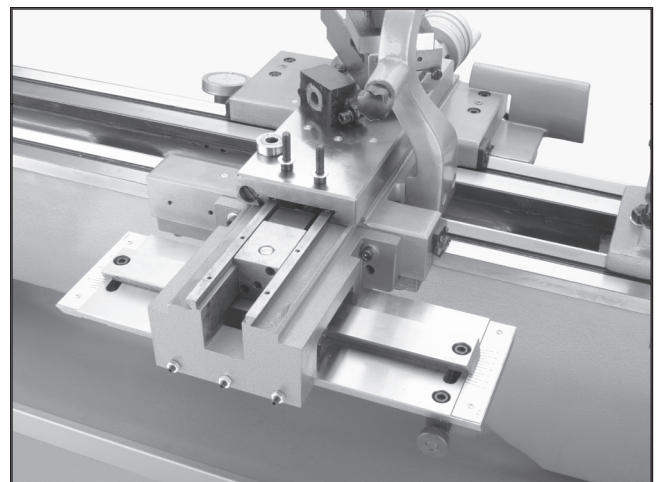

Figure 6. Main Body Assembly.
15. Align the four holes in the main body with the thread holes on the carriage. Use the four M8 - 1.25 x 30 cap screws to loosely fasten the main body to the lathe. A long-handled, ball end hex wrench works best for this step (**Figure 6**).
16. With the main body loosely fastened (see **Figure 6**), move the slide block back and forth, by either pulling/pushing on the lead screw or turning the cross slide handwheel. Stop when the pin in the slide block can be inserted into the hole in the slide. Push the pin, refer to **step 7**, into place to secure the slide block.